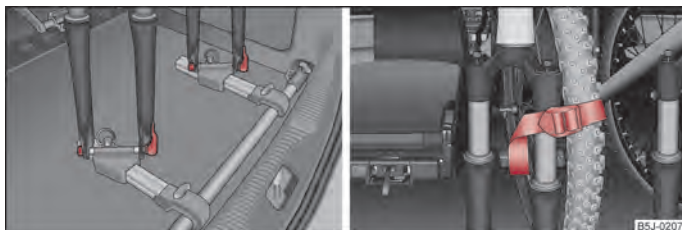

Fig. 55 Put in the bicycle/fastening the front wheel
- Fit the bicycle fork onto the fixing axle and tighten with the quick tension jack ⇒ fig. 55 - left.
- It is best to push the removed front wheel between the crank of the left pedal and the bicycle frame, attach it with a strap to the front fork ⇒ fig. 55 - right, and/or to a fixing point.